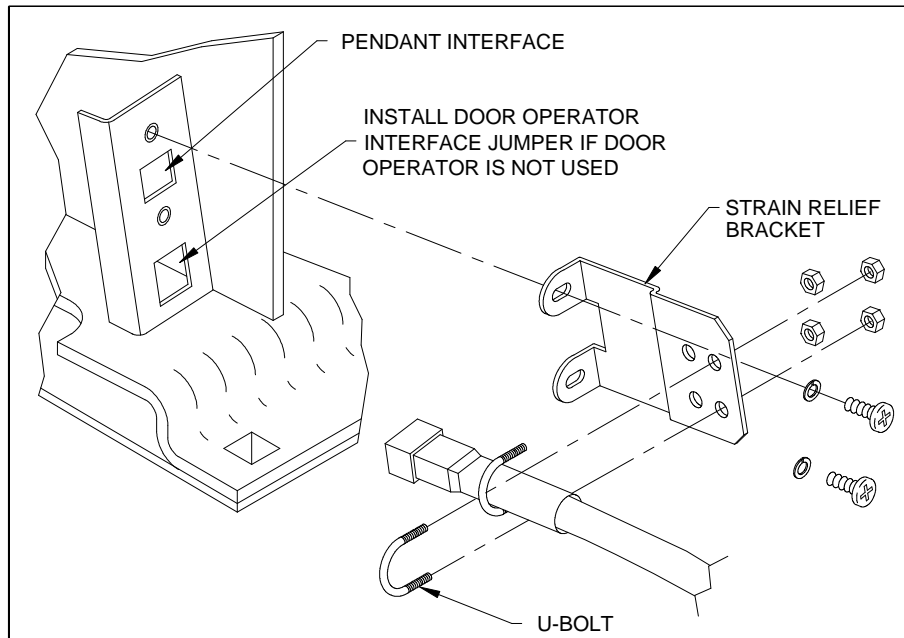

FIGURE 2-12: STRAIN RELIEF KIT
- f. Refer to **Figure 2-12**. Connect appropriate RICON lift control interface to lift and secure control cable to lift with supplied cable clamp.